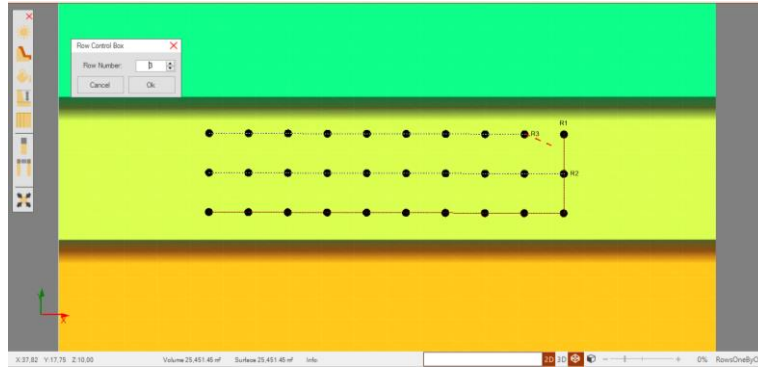

Fig. 160 - Line Editor: One by one
- Hole by hole: The user must define the row number in the **Row Control Box** and drag the mouse over a hole to assign a row ID (Fig. 160).